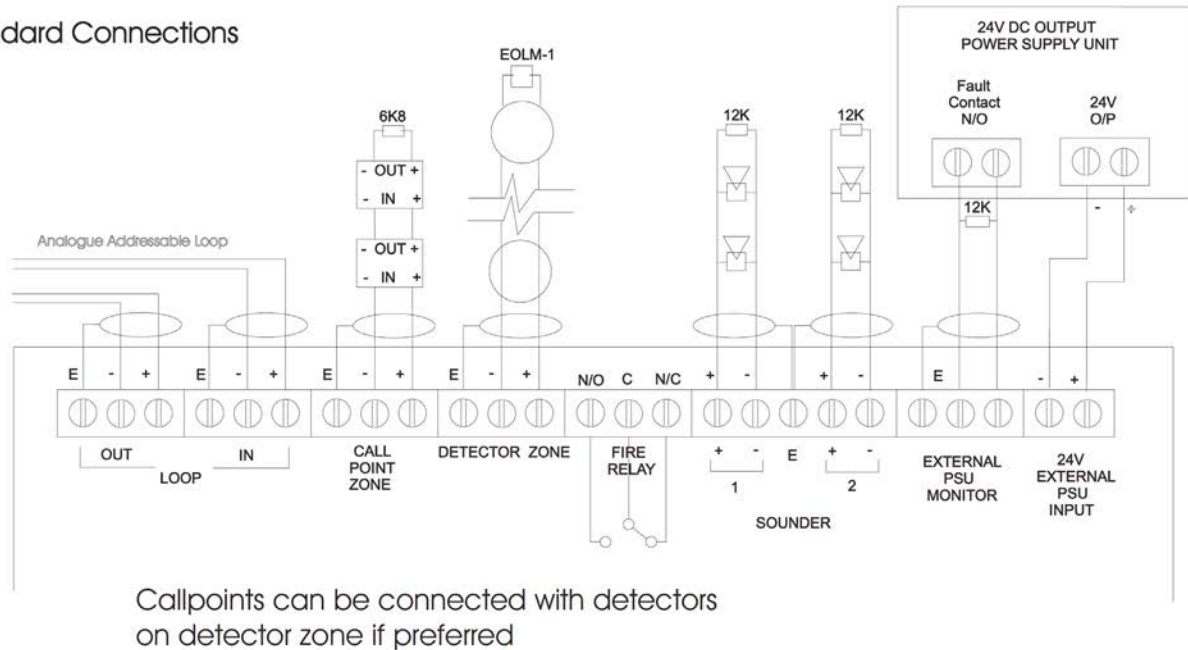

Figure 52. Shop Monitor Unit MSU840
4. Connect the unit according to the diagram in Figure 52